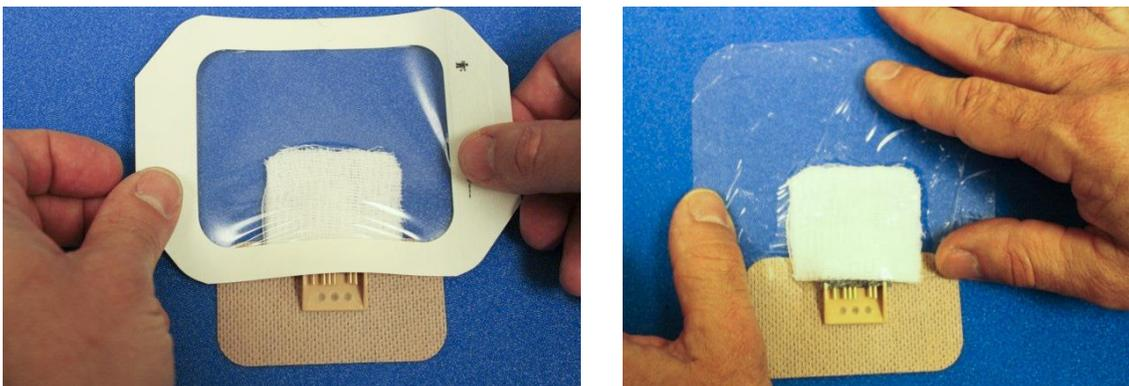

Figure 22
9. Place a transparent dressing over the gauze. (Tegaderm™ and Op-Site™ are examples of transparent dressings) **Do NOT cover the gold pins with the transparent dressing. (Figure 22).**